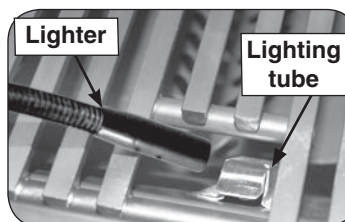

Fig. 25-2 Manual lighting via lighting tube
2. Insert either a burning long-barrel butane lighter or a burning long-stem match through the cooking grid opening to the top of the lighting tube (see Fig. 25-2). For backburners or infrared burners, hold the flame against the surface of the backburner/infrared burner. For sideburners, hold the flame against the burner.